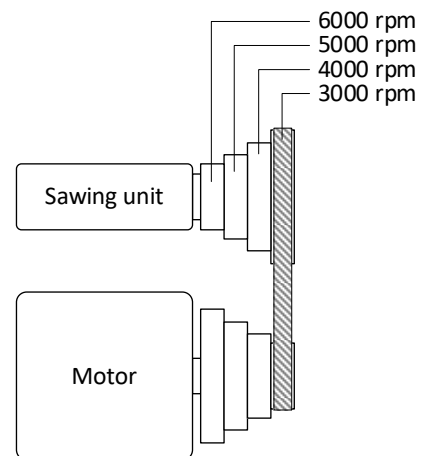

Figure 53: Speed scheme
- Now shift the V-belt to the desired speed according to ⇔ Figure 53. **Rule of thumb:** Always change from "large" to "small" first.
- Swivel the adjusting lever (H) to the left